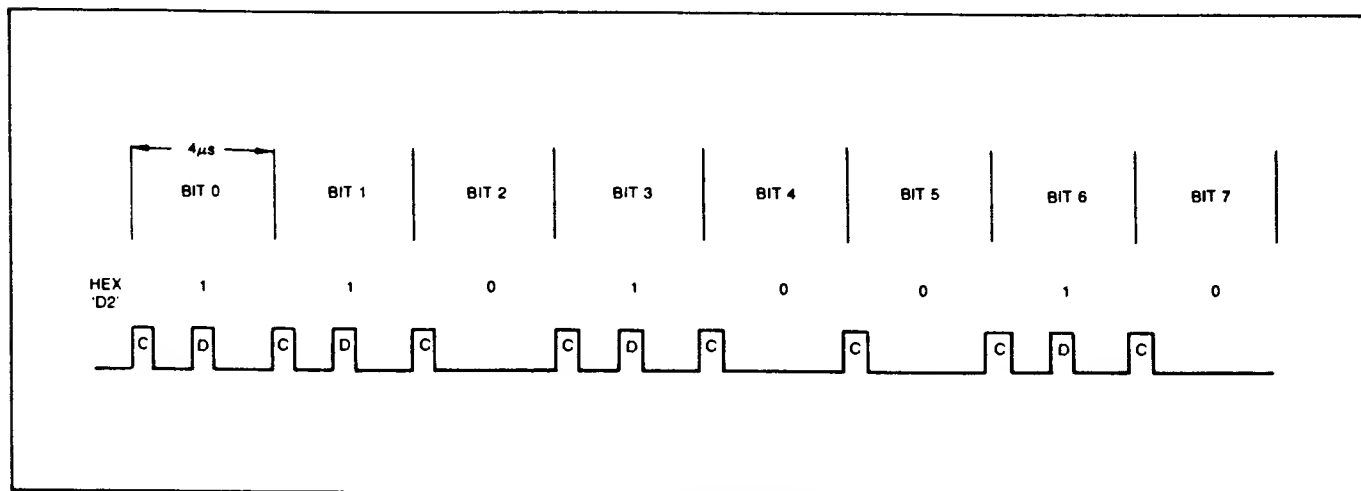

FIGURE 1. FM RECORDING.
The 1771 has been designed to be compatible with the IBM 3740 standard. This single-density Frequency Modulated (FM) recording technique, records a clock bit between a data bit serially on each track. Figure 1 illustrates how a HEX "D2" is recorded. Note that when the data bit to be written is zero, no pulse or flux transition is recorded. For the 8" drive, there are 77 tracks, with 26 sectors on each track. Each sector contains 128 bytes of data. Although there is no "standard" format for the mini-floppy, most manufacturers utilize either 35 or 40 tracks per side, with 16 sectors of 128 bytes each per track. Both the 8" and 5¼" formats must be soft-sectored, i.e., there are no physical holes to denote sector locations. The hard-sectored disk has been losing popularity, mainly due to the fact that the sector lengths cannot be increased.